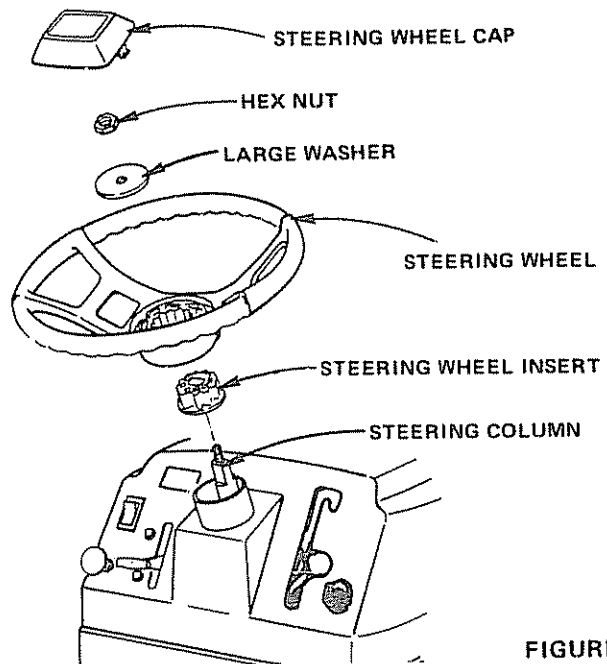

FIGURE 5
- a. Remove Hex Nut and Large Washer from Steering Column (Fig. 5).
- c. Secure Steering Wheel to Steering Column using Large Washer and Hex Nut (Fig. 5).